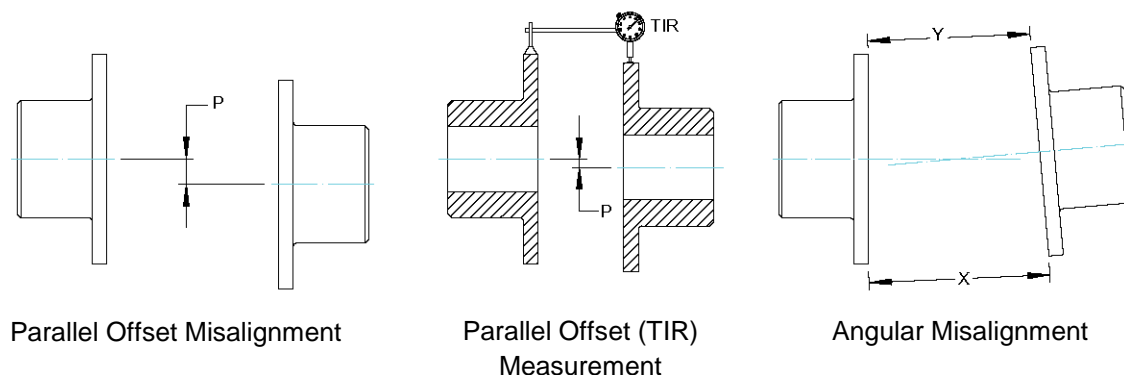

Figure 4. Coupling Alignment
2. The “Parallel Misalignment” value (P) is the offset between the centers of the hubs, as shown in Figure 4.
3. When the Parallel Offset is measured by rotating the hubs in unison with dial indicators as shown in Figure 4, the Total Indicator Reading (TIR) should be divided by (2) to calculate (P).
5. The “Angular Misalignment” value is the maximum difference between the measurements X and Y taken at opposite ends of the hub flanges, as shown in Figure 4.